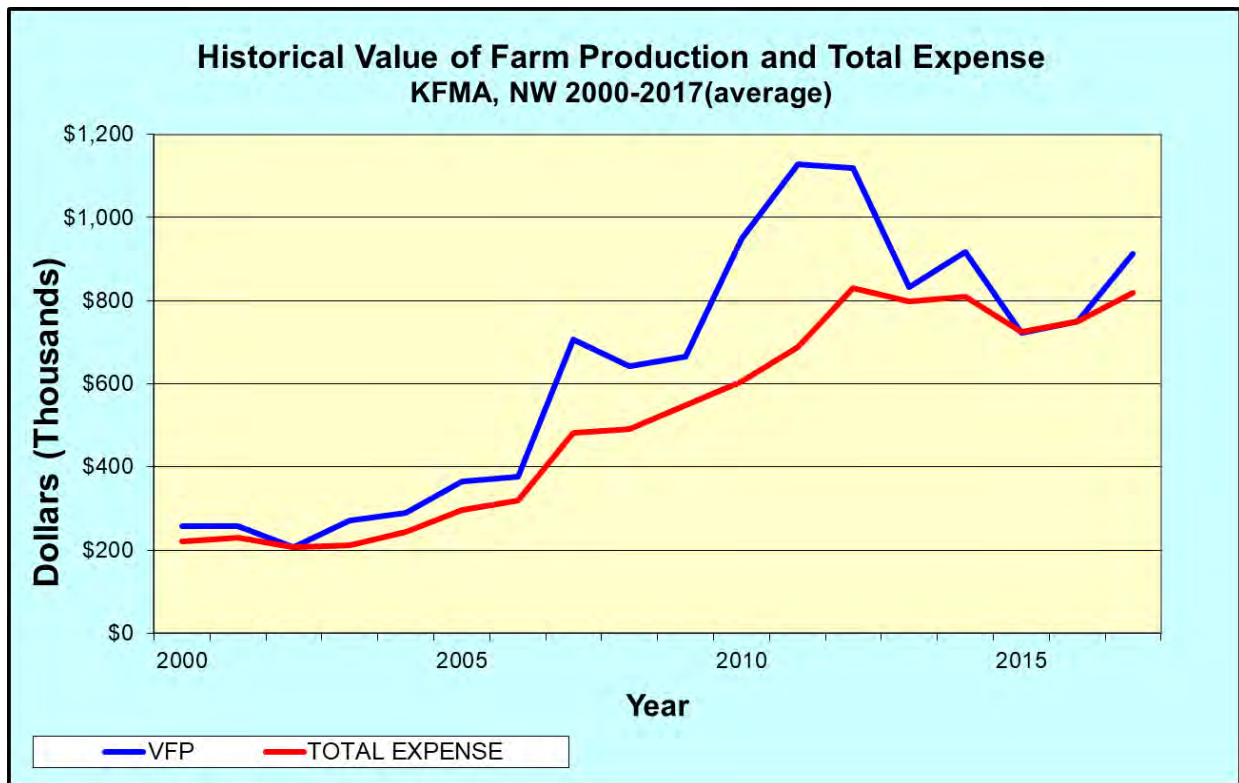
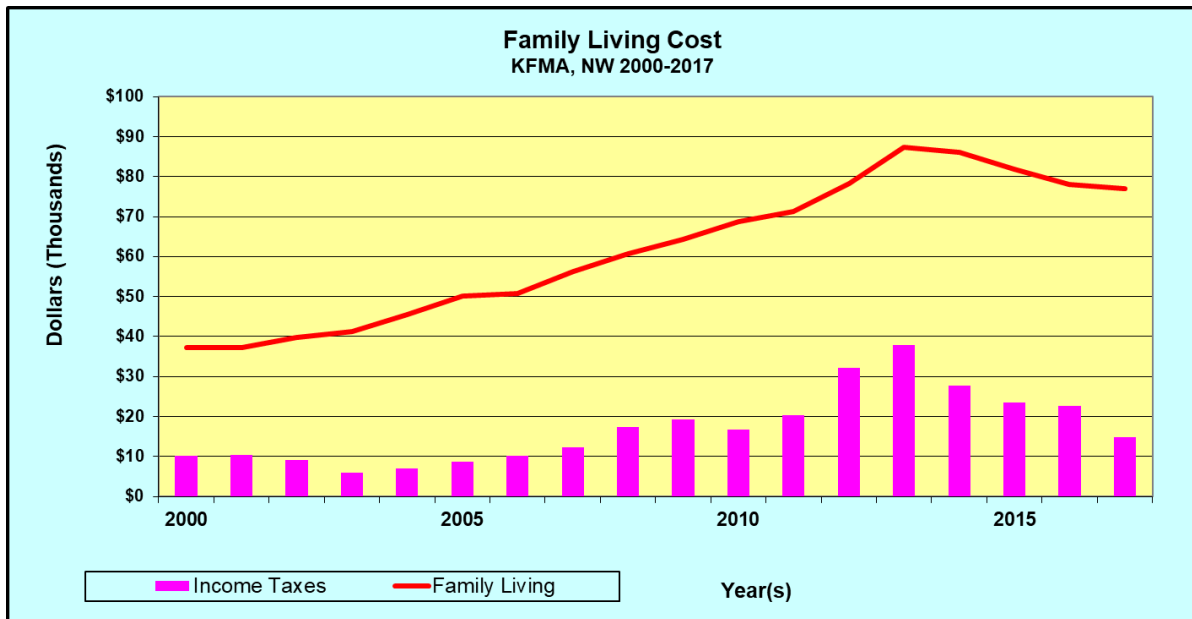

Figure 1
Figure 2
Figure 1 shows Value of Farm Production (VFP) and Total Expense (TE) for KFMA, NW member farms since 2000. Notice the VFP above the TE line showing positive Net Farm Income (NFI) in those years. Many factors in the background led to those highly profitable years
However basic economics kicked in leading to inflated land, machinery, breeding stock, and input costs. Profit margins tightened up quickly and positive cash flow diminished. Also, family living is still lingering around \$100,000 for the average KFMA, NW family and has little room to budget. Figure 2 shows family living and income taxes paid during the same time period as Figure 1's value of farm production. Family living and income taxes are generally lagged from net farm income but increased after the good years and has decreased during the poor years. Unless there is sufficient off farm income to cover family living and income taxes, the farm business must provide all the funds or the family is living on borrowed money.
Often paraquat is criticized as an herbicide that is prone to drift; however, paraquat is no more driftable than other herbicides and may even be less because it is not volatile. It is common for paraquat to speckle leaves on nearby corn for example (Figure 2). Corn is extremely sensitive to paraquat, and many paraquat applications are made with small droplet sizes which are more prone to drift.
Figure 2. Corn is very sensitive to paraquat. It is common for necrotic areas to appear on corn from paraquat burndowns. Corn yield is seldom affected from this type of injury.